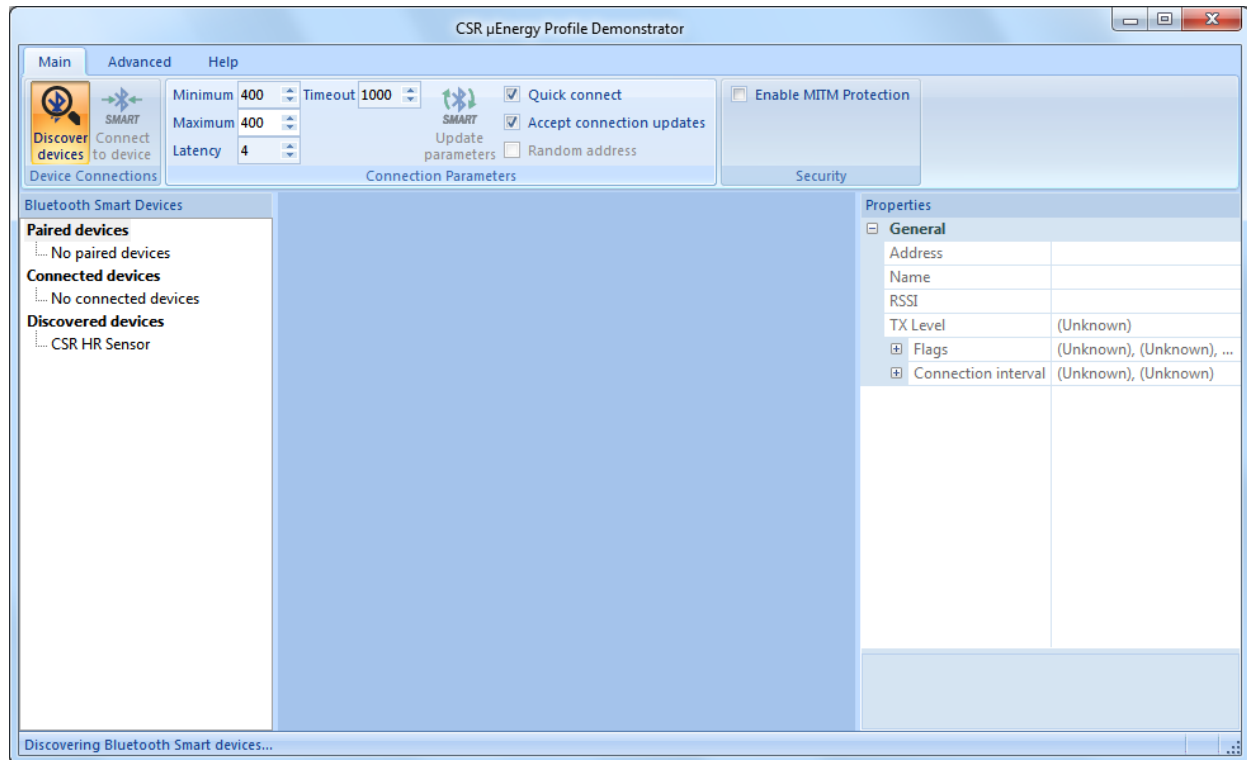

Figure 2.6: Heart Rate Sensor Device Discovered
2. Click on the **Discover devices** button in the **CSR μ Energy Profile Demonstrator** application window. The application searches for Bluetooth Smart devices and lists all the discovered devices on the left hand side of the application window, see Figure 2.6.